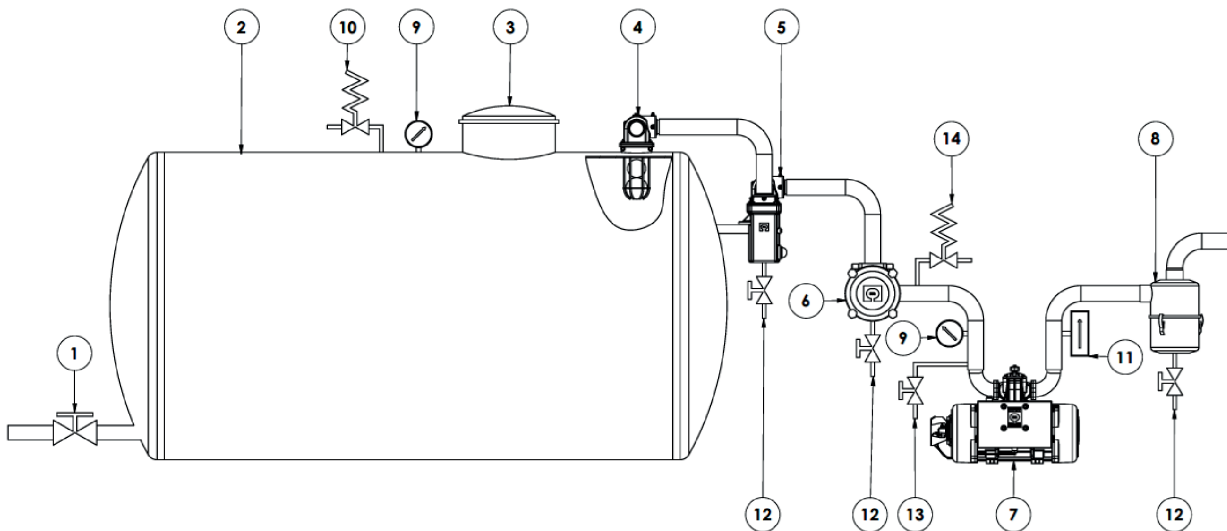

Fig. G.15 - Vacuum system diagram
For this purpose **Moro Kaiser srl** has developed a double protection system (see **Fig. G.15, page 28**).
The optional thermostat (**pos.11 Fig. G.15**) must be installed directly downstream of the pump (max. 50 mm distance).